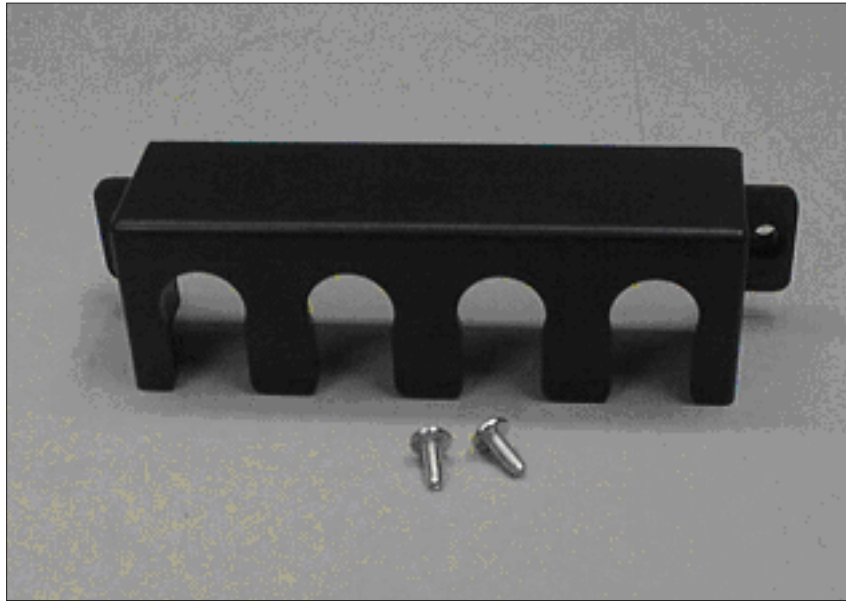

Figure 18. 2145 UPS-1U power cable-retention bracket hardware
2. Remove the bracket and the two screws (shown in Figure 18 on page 24) from the packaging.